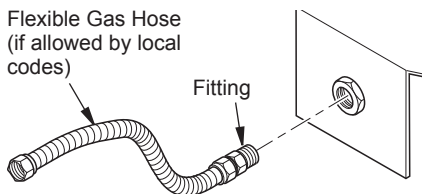

Figure 11 - Attaching Flexible Gas Hose to Heater
1. Apply pipe joint sealant lightly to male threads of gas fitting. Connect approved flexible gas hose to fitting in base (see Figure 11).